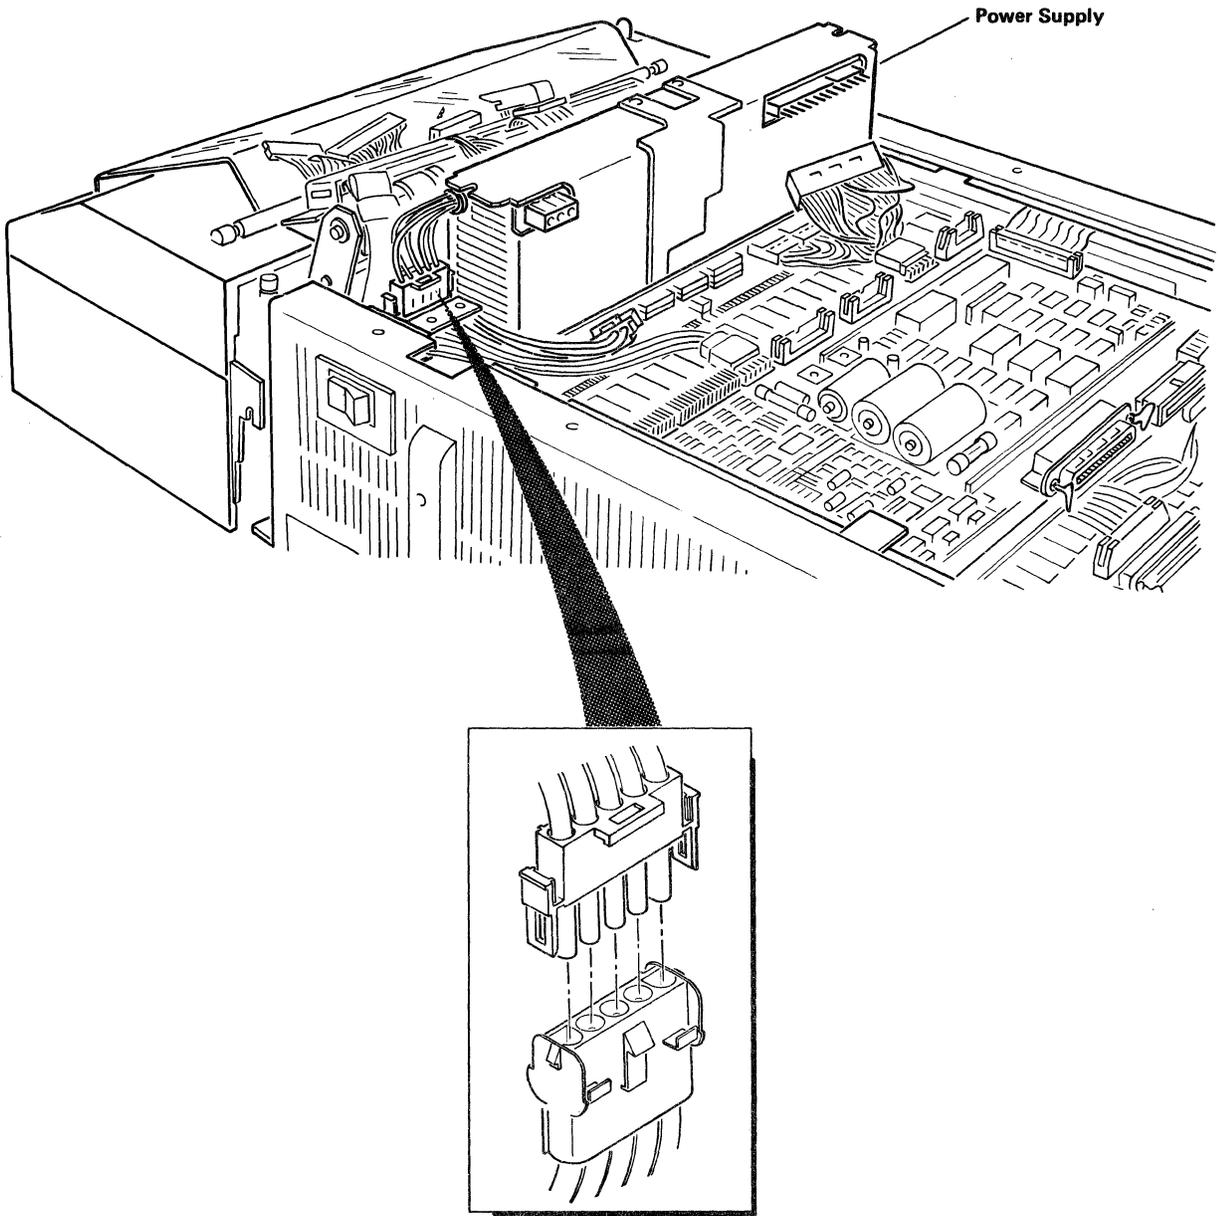

Figure 4-20. Power Supply Removal.
14. Disconnect the AC line connector and gently lift the power supply up and out of the chassis (See Figure 4-20).
1. Reconnect the AC line connector and replace the power supply by gently lowering it back into position being sure that the printer/plotter AC cable is positioned under the power supply support bracket and the bracket on the power supply interlocks with the bracket on the expansion board (See Figure 4-20).